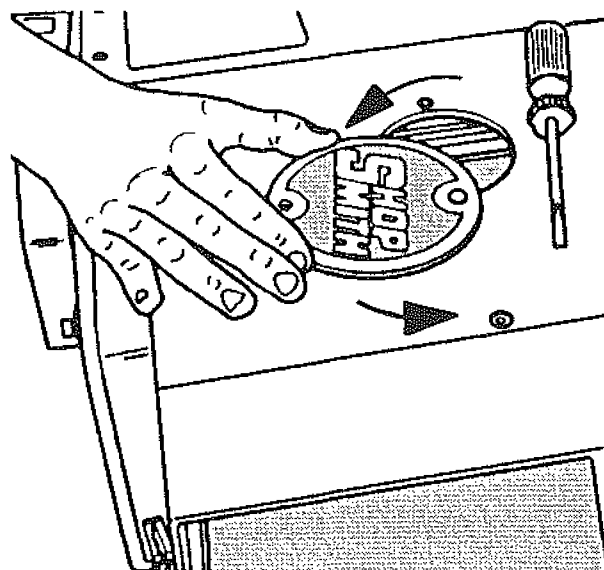

Fig. 1
1. Use the screwdriver to remove the screw in the Shopsmith logo, located on the outfeed shield of your planer. Rotate the logo 180° to expose the sawdust port, as shown in Fig. 1.